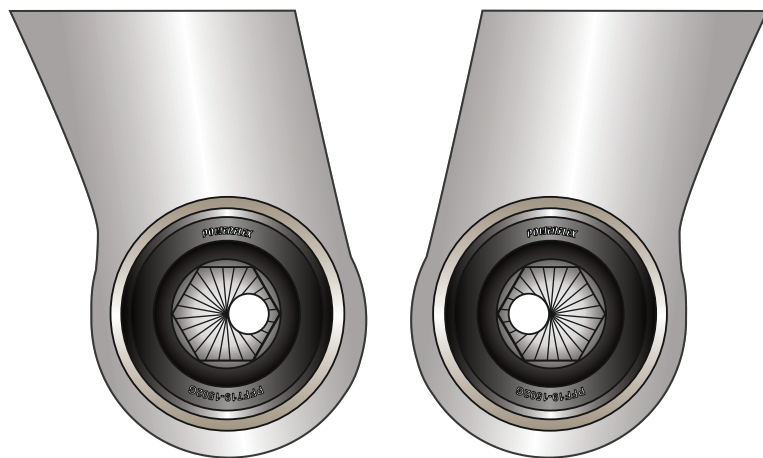

Figure 1
4. For maximum caster adjustment, using a 27mm spanner, rotate the centre sleeve so that the offset hole is nearer to the inside of the car, as shown in Fig 1. This setting is recommended for improved steering feel, in-corner camber gain and sharper turn-in.